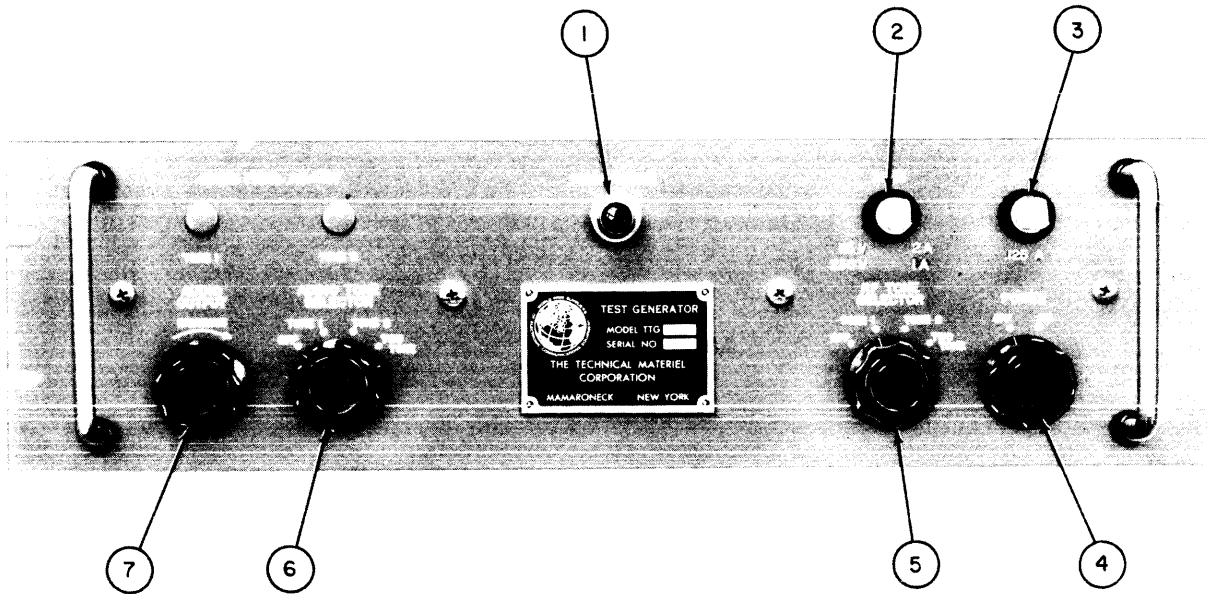

Figure 3-1. Controls and Indicators, TTG-2
a. CONTROL FUNCTIONS. - As shown in figure 3-1, Test Generator TTG-2 contains four controls, a MAIN POWER indicator lamp, and two blown-fuse indicators. Table 3-1 lists the controls and indicators and the function of each.
b. OPERATING PROCEDURES. - The TTG-2 is used in transmission systems to determine the quality of the system. Paragraph (1) below outlines one method for using the TTG-2 to check the proper operation of spectrum analyzing equipment. Paragraphs (2), (3), and (4) below outline various methods of using the TTG-2 to check the proper operation of transmitting equipment.
In the following procedures, numbers enclosed in parenthesis are callouts referenced to figure 3-1.
Numbers enclosed in parenthesis are callouts referenced to figure 3-1.
Number enclosed in parenthesis are callouts referenced to figure 3-1.